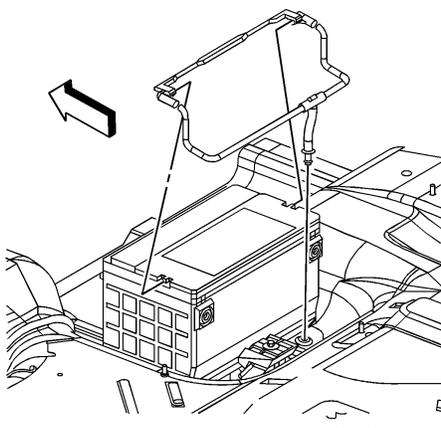

Fig. 4 Battery vent tube removal
10. Remove battery vent tube from battery, Fig. 4.
3. Install battery vent tube to battery, Fig. 4. Ensure vent tube is properly routed through floor pan grommet.